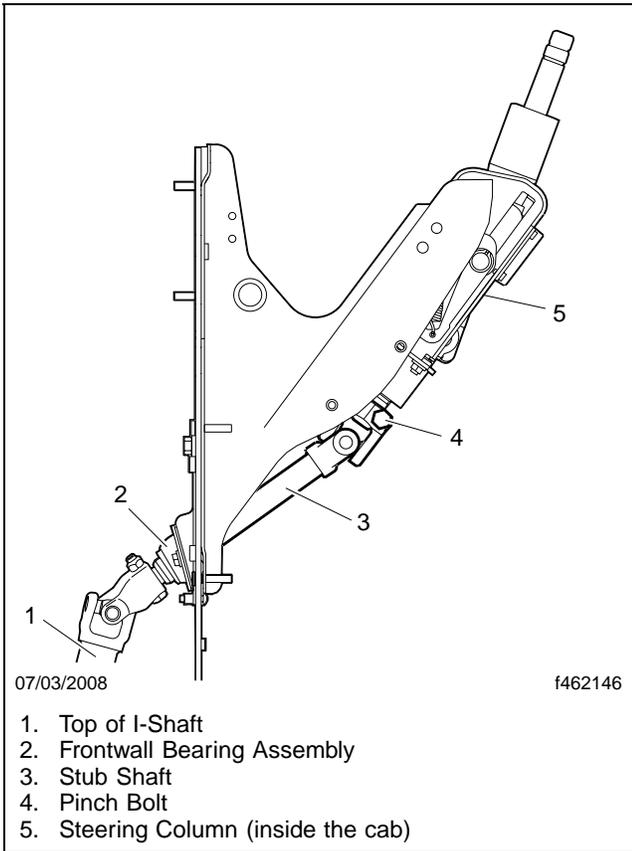

Fig. 3, Stub Shaft Installation, Side View
24. Install the new stub-shaft, and fit a new pinch bolt and nut in the U-joint; as shown in **Fig. 3**. Tighten the nut 30 to 35 lbf-ft (41 to 47 N·m).